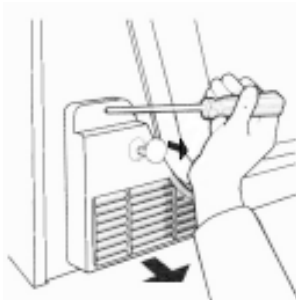

Fig. 1
2. Remove the vent on the back of the machine (Fig 1).